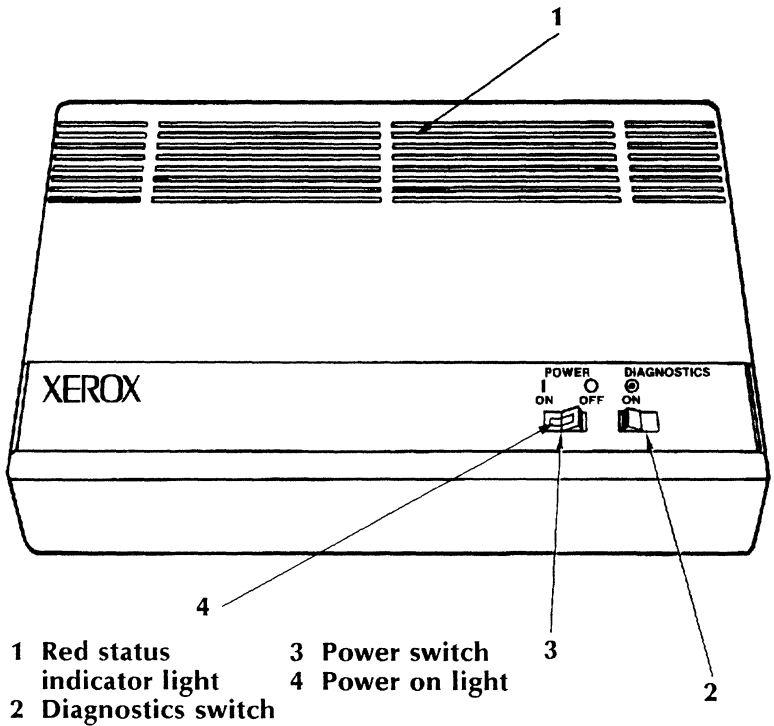

Figure 6-2 Top of the 274 IC
- The 274 IC is turned on by pressing the red power ON/OFF toggle switch, (located on the top of the 274 IC), to the ON position. Figure 6-2 shows the top of the 274 IC, the diagnostics switch, the power switch, and power on indicator.